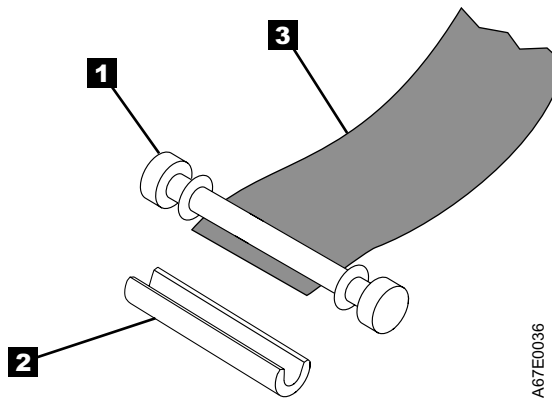

Figure 41. Removing the C-Clip from the Leader Pin. Use your fingers to push the C-clip from the leader pin.
5. On the leader pin (**1** in Figure 41), locate the open side of the C-clip **2** . The C-clip is a small black part that will secure the tape **3** to the pin.